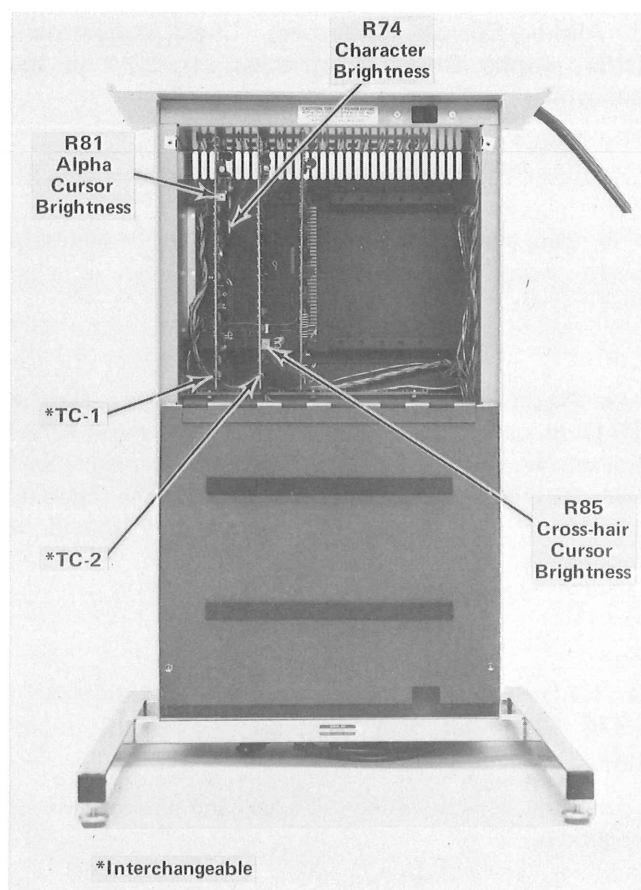

Fig. 4-12. Adjustment locations in pedestal.
k. Check vector writing. A vector should have been drawn from the bottom-left corner to the top-right corner of the display. Some or all of it may be missing. If a complete vector is drawn from the bottom-left to the top-right corner, press PAGE and again adjust R86 to diminish the intensity of the Alpha cursor. It may be necessary to increase the setting of R81, Alpha Cursor Brightness, on edge of TC-1 (Fig. 4-12), to keep a visible cursor so the effect of the R86 adjustment can be observed.
- c. Adjust Alpha Cursor Brightness (R81 on edge of TC-1) to obtain the desired intensity. See Fig. 4-12 for adjustment location. If the cursor continues to store with R81 at minimum intensity, the R86 Writing Intensity adjustment may be set too high; step 7 should be re-checked.
- b. Adjust Character Brightness (R74 on TC-1, Fig. 4-12) for desired brightness, entering additional characters to check results. Adjustment will not affect previously-stored characters.
d. If necessary, adjust R29 (R85 on boards numbered 670-1729-04 and below) — Crosshair Intensity (on TC-2, Fig. 4-12) so that the cursor can be seen.